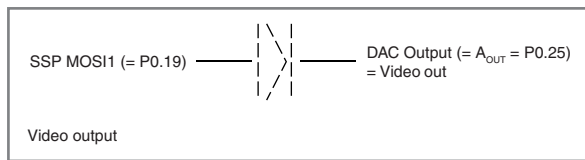

Figure 2—Video output. The pixel data (0 for black and 1 for white) comes from the SSP MOSI1, which must be connected to the DAC output using a diode.
The video signal is generated in a timer ISR, which activates every 64 μ s. The DAC is then set to the required levels for a black line, and the first two lines of each field are held on the sync level (0). The pixel data (0 for black and 1 for white) comes from the SSP MOSI1, which must be connected to the DAC output using a diode (see Figure 2).